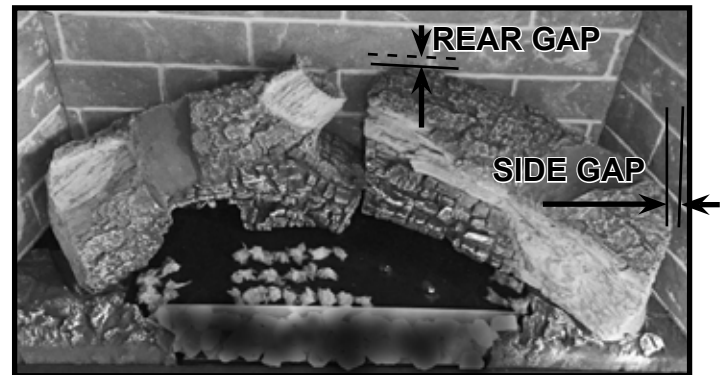

Figure 5 Rear Right Log Installed
2. Remove the large rear right log from packaging. Locate the locating feature on the bottom of the log and mate that feature with the back right log pin. The right side of the log will reside within the indentation in the right hearth component. See Figure 5.
SL-7X and SL-9X Models: The rear right log will be positioned to contact the back wall refractory (no rear gap). Slide the rear right log leftward as close to the rear left log as the locating pin will allow. There will be about a 1 inch side gap between the right end of the log and the right refractory panel. See Figure 5.
SL-3X Models: Mate the left log hole with the left log pin. The rear right log will contact the right refractory panel (no side gap). See Figure 5. Slide the rear left log rightward as close to the rear right log as the locating pin will allow. There should be no more than a 1/4 inch gap between the rear logs.
SL-5X Models: Set the right end of the log in the indentation of the right hearth component. The back side of the log will contact the rear right log pin. See Figure 5.